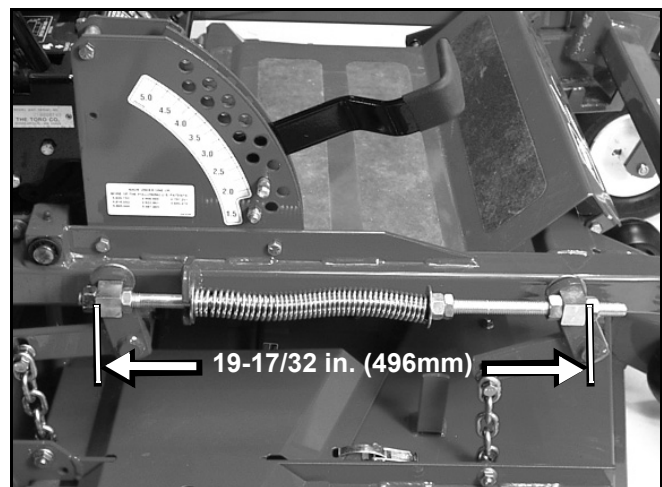

Figure 130
6. Loosen the four top chain bolts in slots. Check the length of the rod/swivel assemblies. Distance from outside of rear swivel to outside of front swivel should be 19-17/32 in. (496mm) (Figure 130). Make sure that all four swivels move freely in holes.